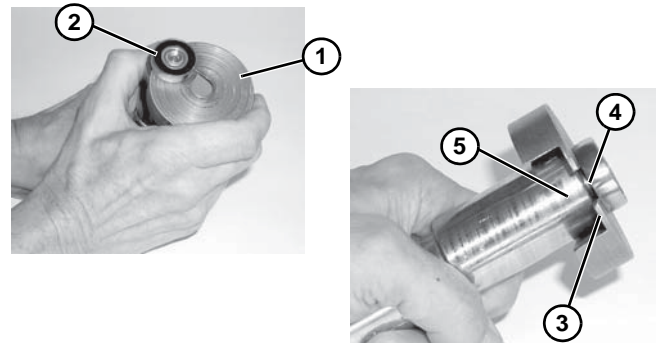

Figure 37
1. Place bearing removal tool part #456063 (Figure 37, item 1) below bearing (Figure 37, item 2) with lip (Figure 37, item 3) located in gap (Figure 37, item 4) between bearing and spindle hub (Figure 37, item 5) as shown.